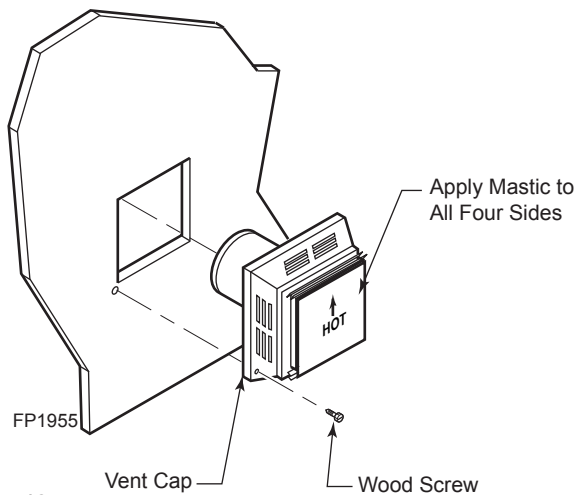

Figure 18 -
4. Apply a bead of non-hardening mastic around the outside edge of vent cap. Position the vent cap in the center of the 7½" (190 mm) or 9½" (241 mm) hole on the exterior wall with the word "UP" on the vent cap facing up. Insure proper clearance of 1" to combustibles is maintained. Attach the vent cap with four wood screws supplied. *Figure 18*